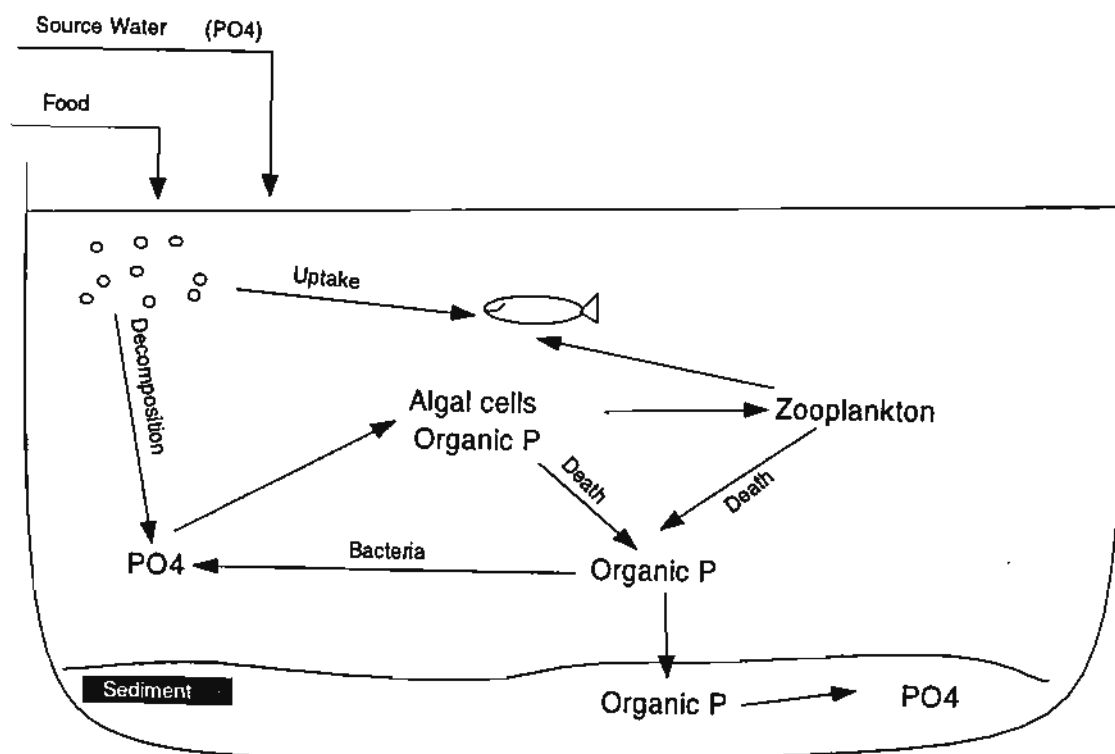

Figure 1.5. Phosphorus cycles between organic and inorganic forms in ponds, resulting in available phosphorus for algal uptake and growth.
**organic phosphorus (ORG-P)** or as the inorganic mineral, **phosphate** (Figure 1.5). The actual form of the phosphate ion changes with pH, but is commonly represented by the chemical formulation PO4-3. Phosphates may exist also as HPO4-2 or H2PO4-1. Phosphates are not stable under aerobic conditions in the presence of a variety of cations. Depending on the pH, they react with calcium, iron, or manganese to form mineral solids, which precipitate out of the water. These same minerals, however, return to solution if they find their way into anaerobic pockets in the sediments.